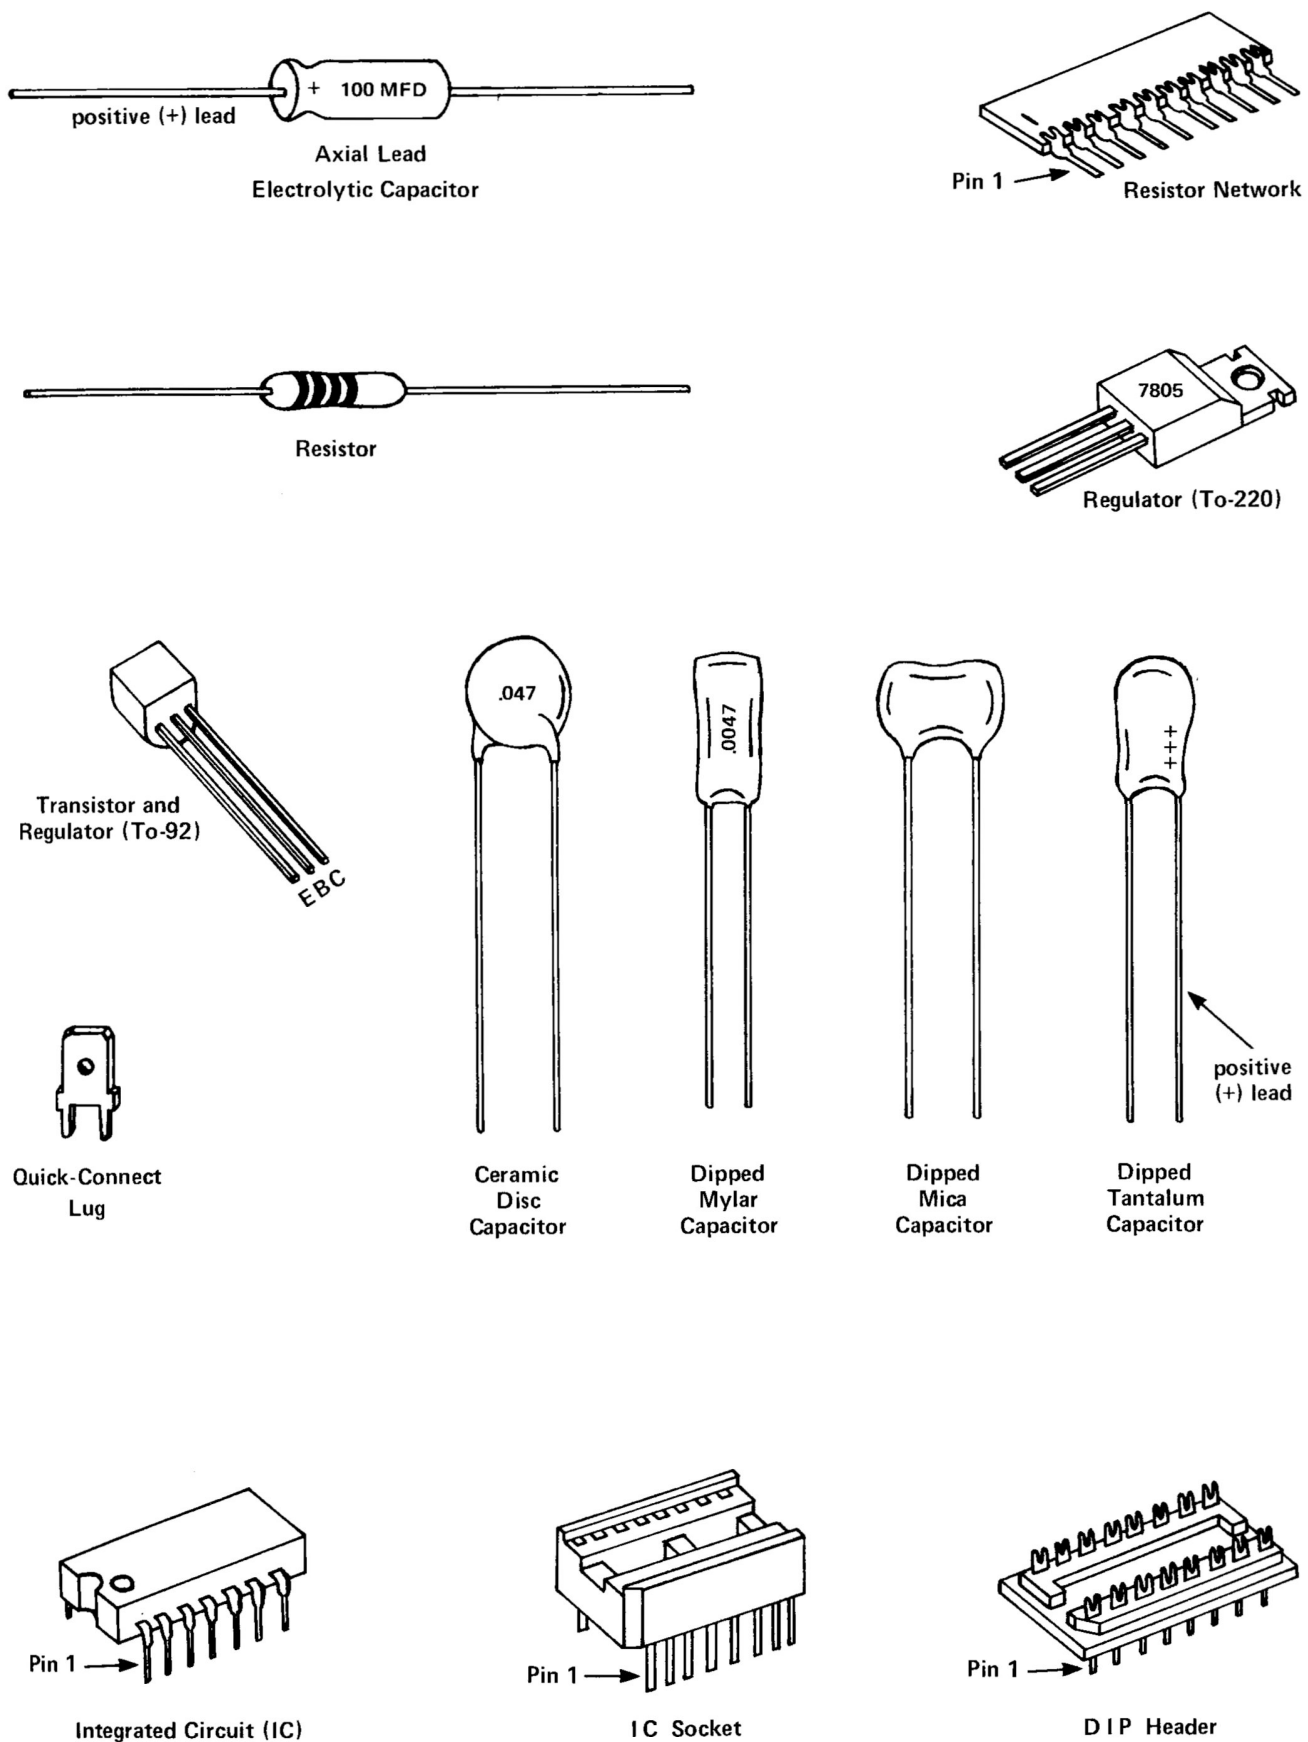

Figure 1A. Identification and orientation of components.
Integrated circuit (IC) sockets can be installed by first inserting them into the printed circuit board, then placing another flat board over the IC sockets and finally turning over this sandwich. Be sure that each IC socket is inserted into the proper location and is oriented such that pin 1 of the socket corresponds to the pin 1 indication on the PC board layout legend. (Refer to figure 1A to identify pin 1 on an IC socket.) To solder IC sockets, first solder just two opposite corner pins